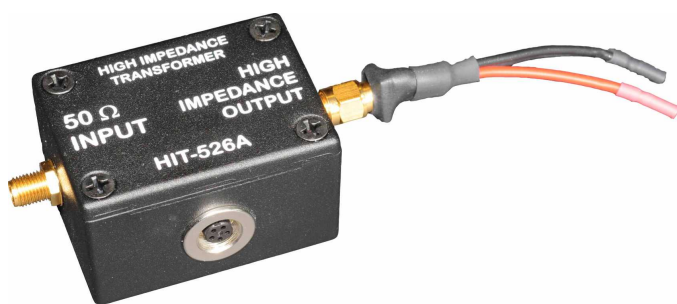
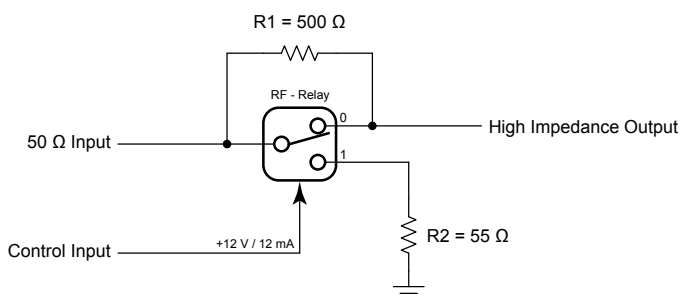

Figure 1: HIT-526A with SMA-to-cable interface (optional) at high impedance output.
Figure 2: HIT-526A schematic diagram.
The HIT-526A (Fig. 1) can be used for 526 Ω high impedance TLP measurements. If the RF switch (Fig. 2) is in the position 0 the resistor R1 is short circuit, R2 is not used, and the HIT-526A works as a through connection. If the RF switch is in the position 1 the pulse input is matched to 50 Ω with R1 and R2 plus DUT connected in parallel to ground. This mode is used for 526 Ω high impedance TLP measurements.
If the SMA-to-cable interface is used (Fig. 1), the bandwidth is limited and rise times ≥ 5 ns should be used in the TLP setup in order to avoid ringing due to the parasitic inductance. If a SMA 50 Ω line is connected to the high impedance output, the typical capacitive load of 1 pF/10 mm of the transmission line together with the 526 Ω output impedance will limit the rise time of the pulse.
3. Keep cable length from the current sensor output to the DUT as short as possible since a 50 Ω transmission line adds 1 pF per 10 mm, which may deteriorate the measurement result. For PCB or packaged device measurements the short cables (Fig. 1) can be used for low parasitics interconnections.